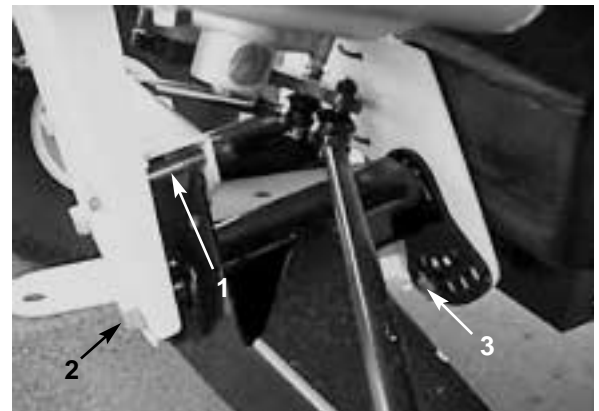

Figure 18
2. Remove the travel limiting bolt (Fig. 18).
3. Loosen the centering bolts in the front “A” frame (Fig. 18).
4. Remove the ride height adjustment bolt (Fig. 18).
5. Rotate the front “A” frame to desired position (Fig. 18).
6. Replace the ride height adjustment bolt and the travel limiting bolt (Fig. 18).